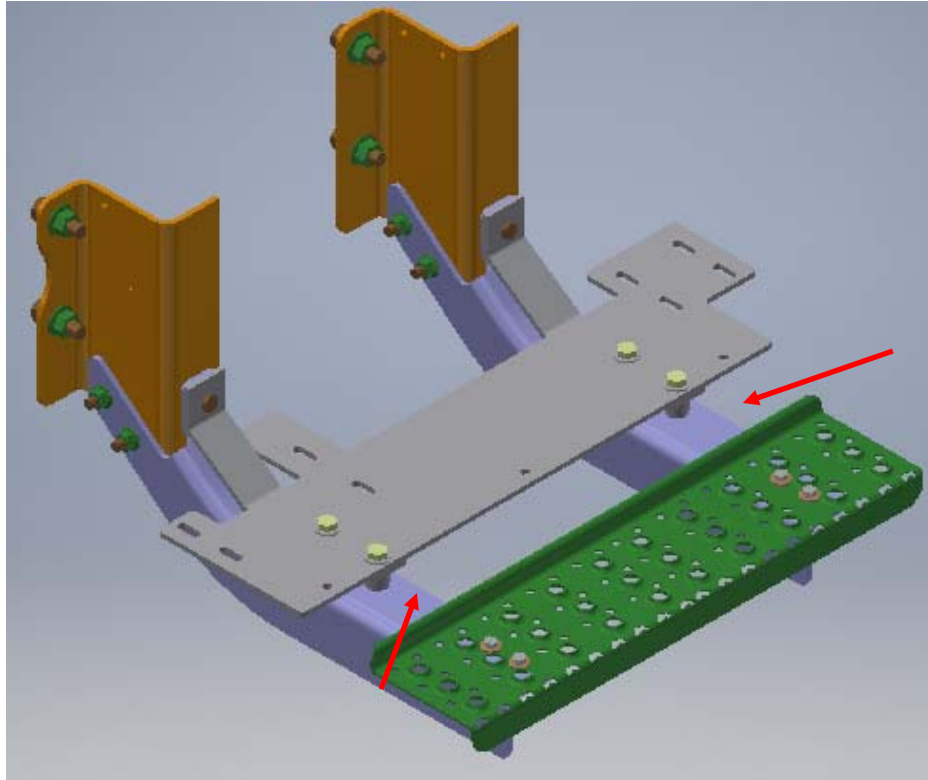

Figure 4: Spacer Location
8. Place Spacers (R-20454) under the Pump Plate Supports and lay the Pump Plate (R-20451) on top of the Support Brackets. Used supplied 1/2" x 2 1/2" bolts and associated hardware to fasten the Pump Plate to the Support Brackets and Step Bracket. (Figure 4)